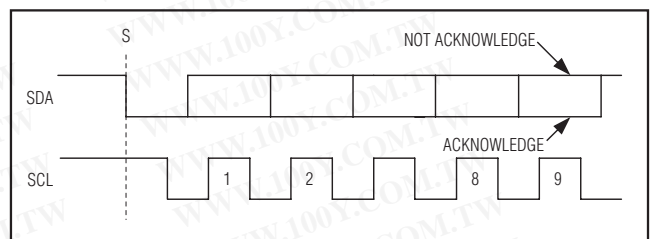

Figure 6. Acknowledge Bits
Successful data transfers are acknowledged with an acknowledge bit (A) or a not-acknowledge bit (\bar{A}). Both the master and the MAX1036-MAX1039 (slave) generate acknowledge bits. To generate an “acknowledge,” the receiving device must pull SDA low before the rising edge of the acknowledge related clock pulse (ninth pulse) and keep it low during the high period of the clock pulse (Figure 6). To generate a “not acknowledge,” the receiver allows SDA to be pulled high before the rising edge of the acknowledge related clock pulse and leaves it high during the high period of the clock pulse.